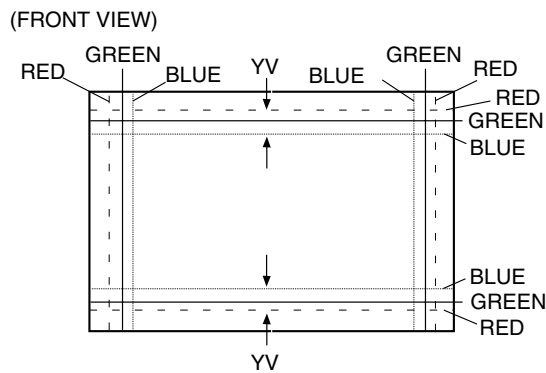

Fig. 12
2. Using the Y_V VR on the deflection yoke, match the Y_V . (Fig. 12 and 14)